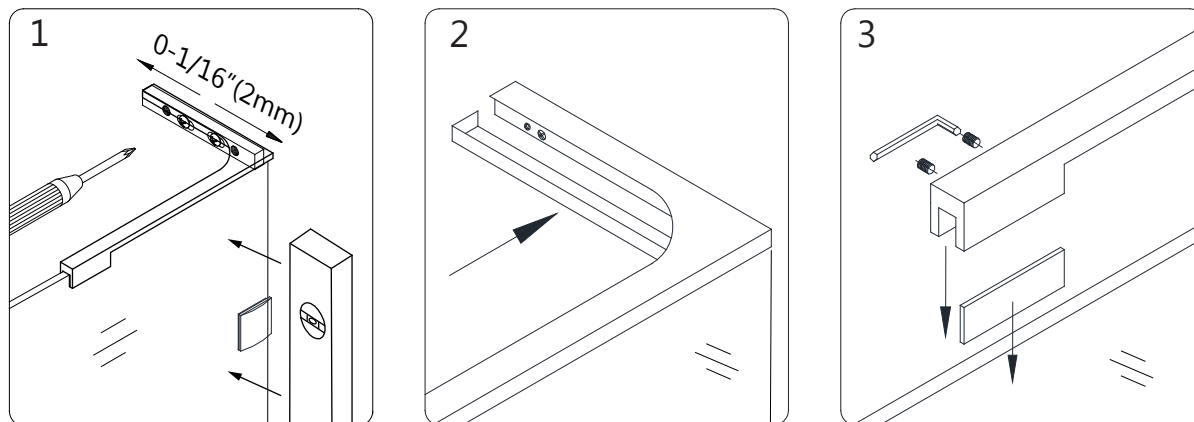

**Fig 10**
**10.** Attach the **Wall Plate (#35.6)** to the wall using the **ST4.2 x 40 (#23)** screws. Re-attach the **L-Bracket (#35.3)** to the **Wall Plate (#35.6)** using the **Flat Head Screw M5x14 (#35.8)** and adjust the angle if necessary by using the **Wall Plate Adjustment Set Screws (#35.9)**. (**Fig 10**)